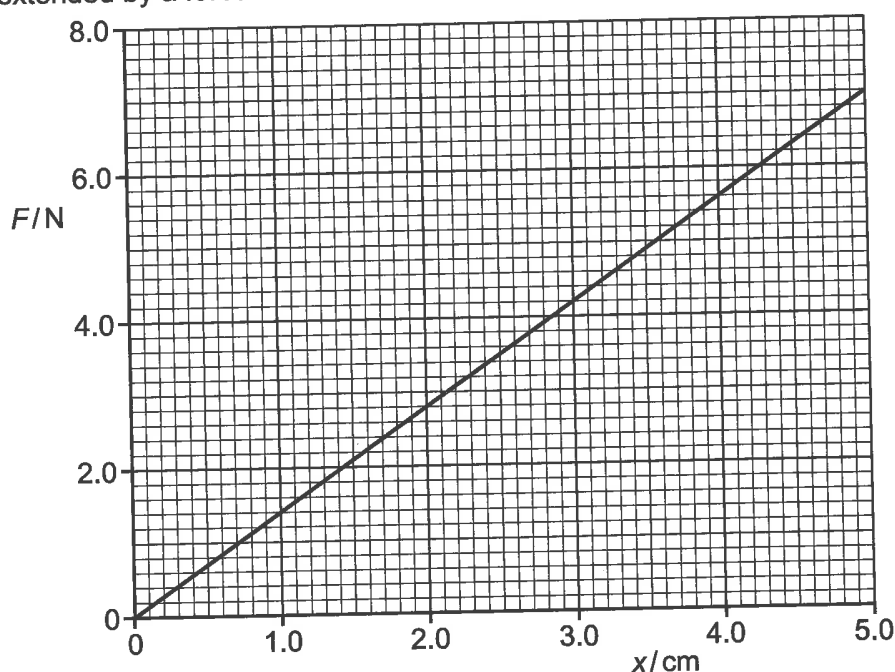

Fig. 3.1
A spring is extended by a force. The variation with extension x of the force F is shown in Fig. 3.1.
- (a) State the name of the law that relates the force and extension of the spring shown in Fig. 3.1.